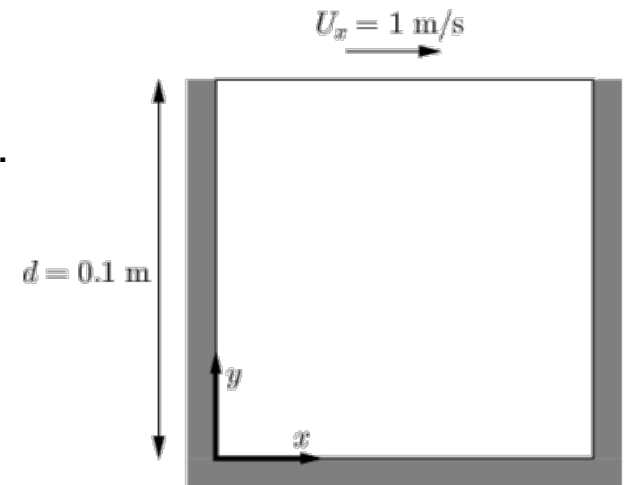

Figure 1. Geometry of the lid driven cavity
- **Lid-driven cavity flow** (see Fig. 1)